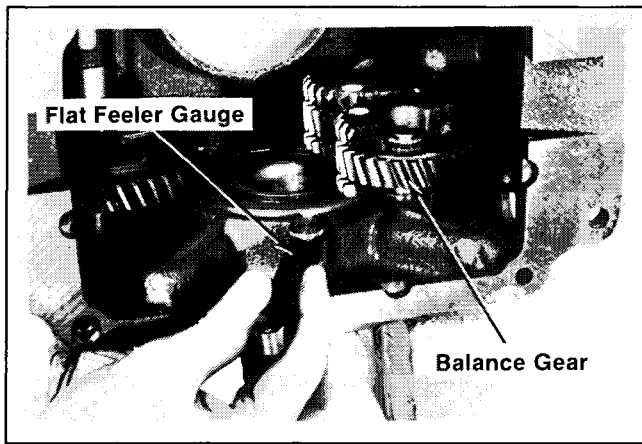

Figure 12-10. Measuring Balance Gear End Play.
2. Check end play with a flat feeler gauge. Refer to Figure 12-10. Recommended end play is  $.002''$  /  $.010''$ . If end play is not within range, install or remove  $.005''$  and  $.010''$  spacers\*, as necessary.